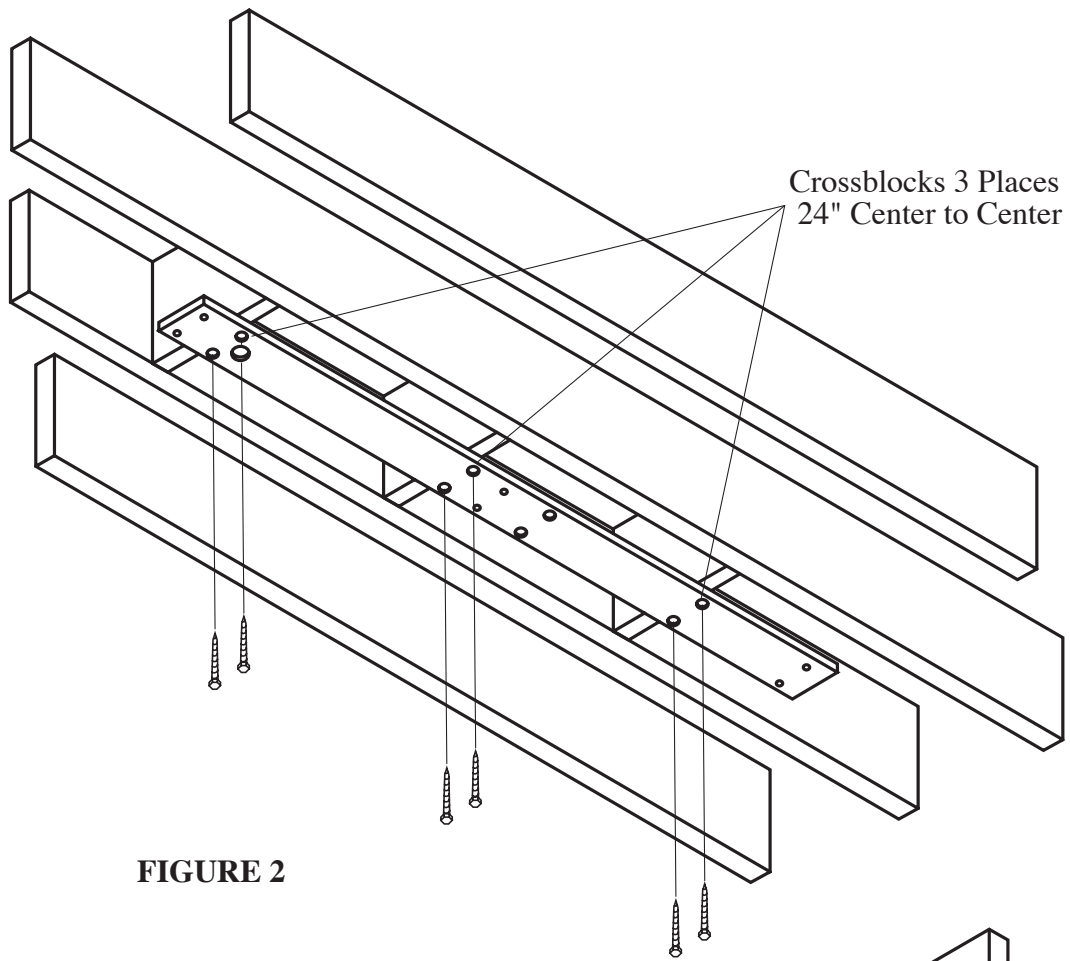

FIGURE 2
- B) For conventional ceilings with **joists parallel** to the center line of the light, cross blocks must be installed in 3 places to allow mounting with **at least 6 (M8 x 76 mm)** lag screws. (SEE FIGURE 2.)